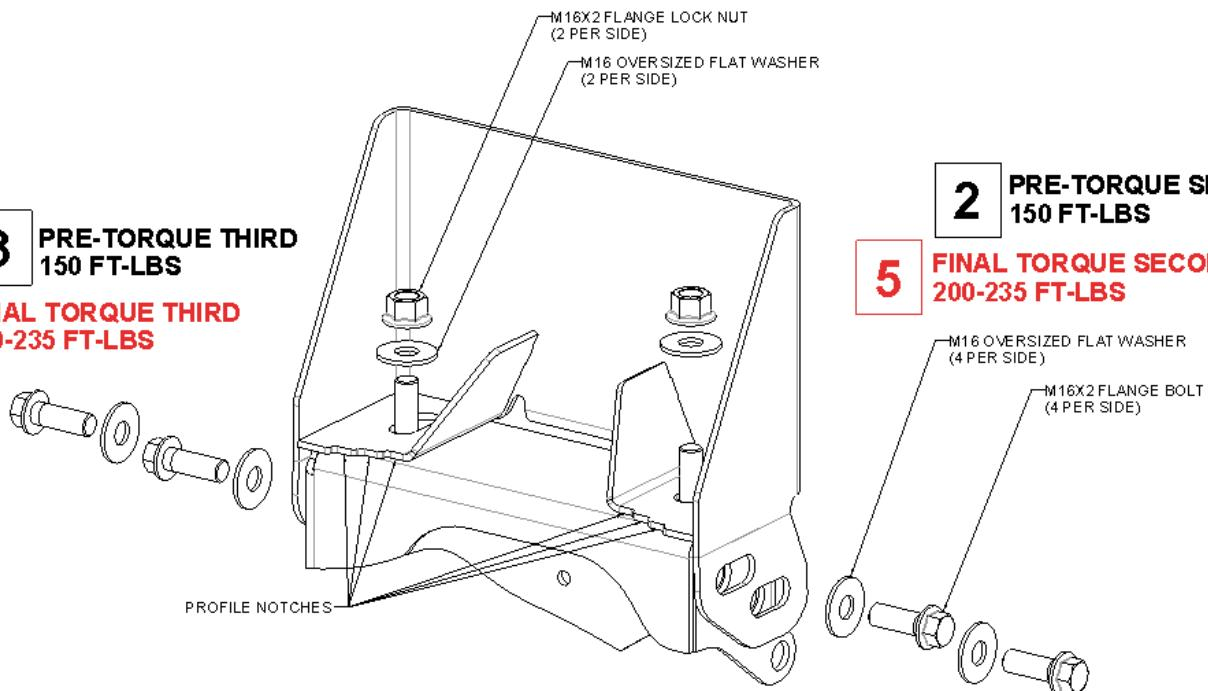

FIG. 4
9.6 Assemble the suspension to the front frame brackets using the provided mounting hardware (See **Fig. 4** for fastener detail).
NOTE: Center the suspension on the truck using the profile notches on the hanger as a visual indicator (See **Fig. 4**).
TORQUE M16 fasteners as shown in **Fig. 4**.